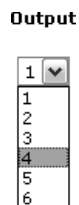

Figure 66. Output Selection Drop Box
- To select an individual output to mute or unmute, click the Output drop box. A drop down scroll box appears (see figure 66).